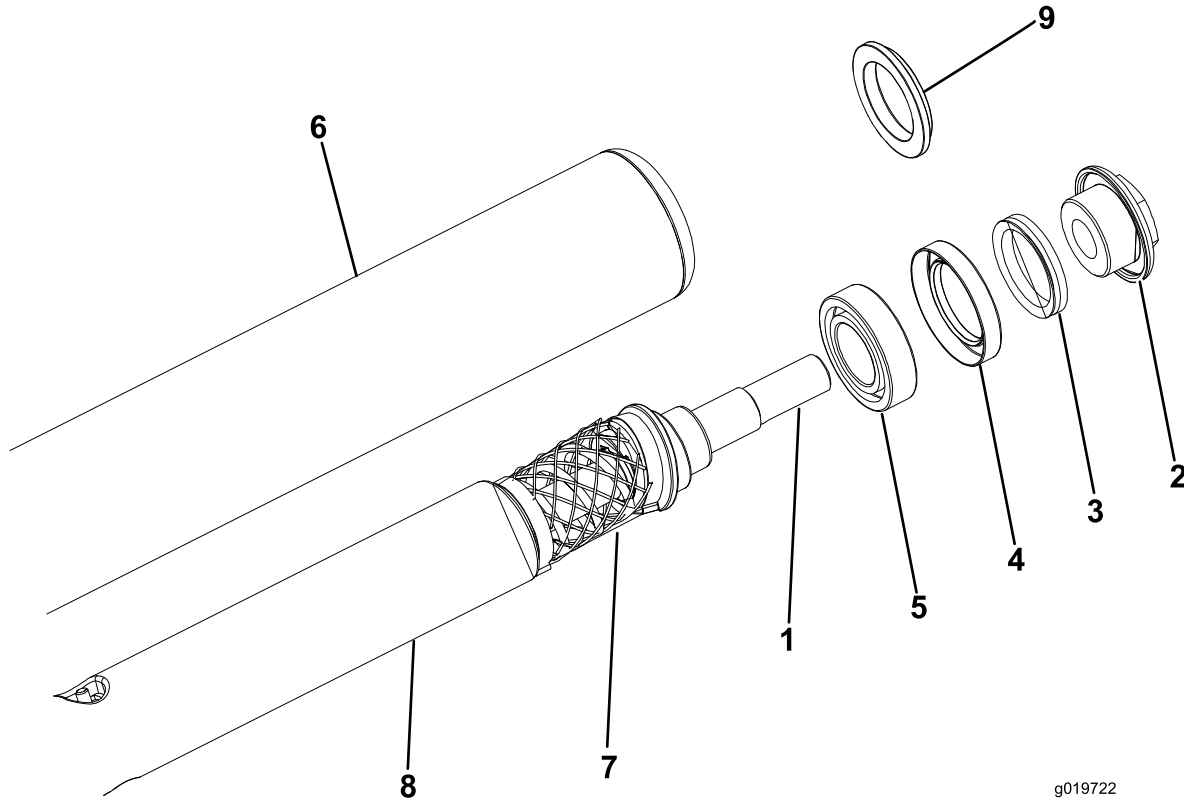

Figure 6
1. To hold the roller shaft to remove the bearing locknut, install a 3/8-24 UNF 2B screw into the threaded end of the roller shaft and secure it in place with jam nut. While retaining the shaft, remove the bearing locknut from each end (Figure 6).
2. Remove v-ring from each end of the roller (Figure 6).
3. Carefully inspect the seating surface and threads of the bearing locknuts (Figure 6). Replace the locknut if you find any damage.
4. Loosely secure the roller assembly in a bench vise and lightly tap one end of the roller shaft until the seal and bearing are removed from the roller cavity. Remove the second seal and bearing from the roller cavity by tapping on the shaft (Figure 6).
Note: When servicing the roller bearings, replace the net sleeve (Figure 6).
Note: If you are disposing of the roller, the roller weight (Figure 6) contains lead, dispose of the roller shaft assembly properly.